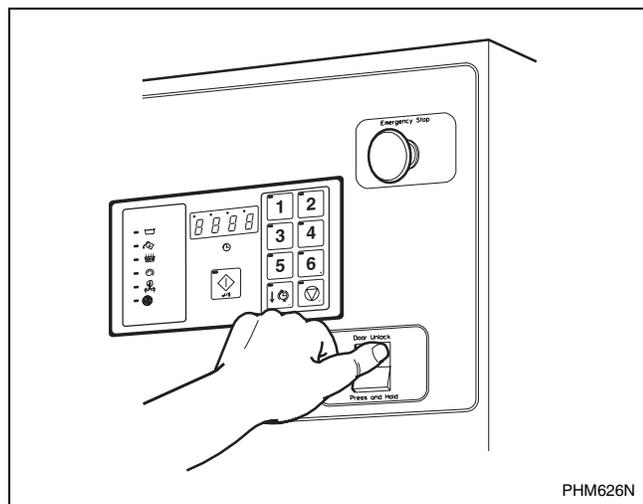

Figure 3
2. Use left hand to press and hold the door unlock button located on the lower right front of the control panel. Refer to *Figure 3*.